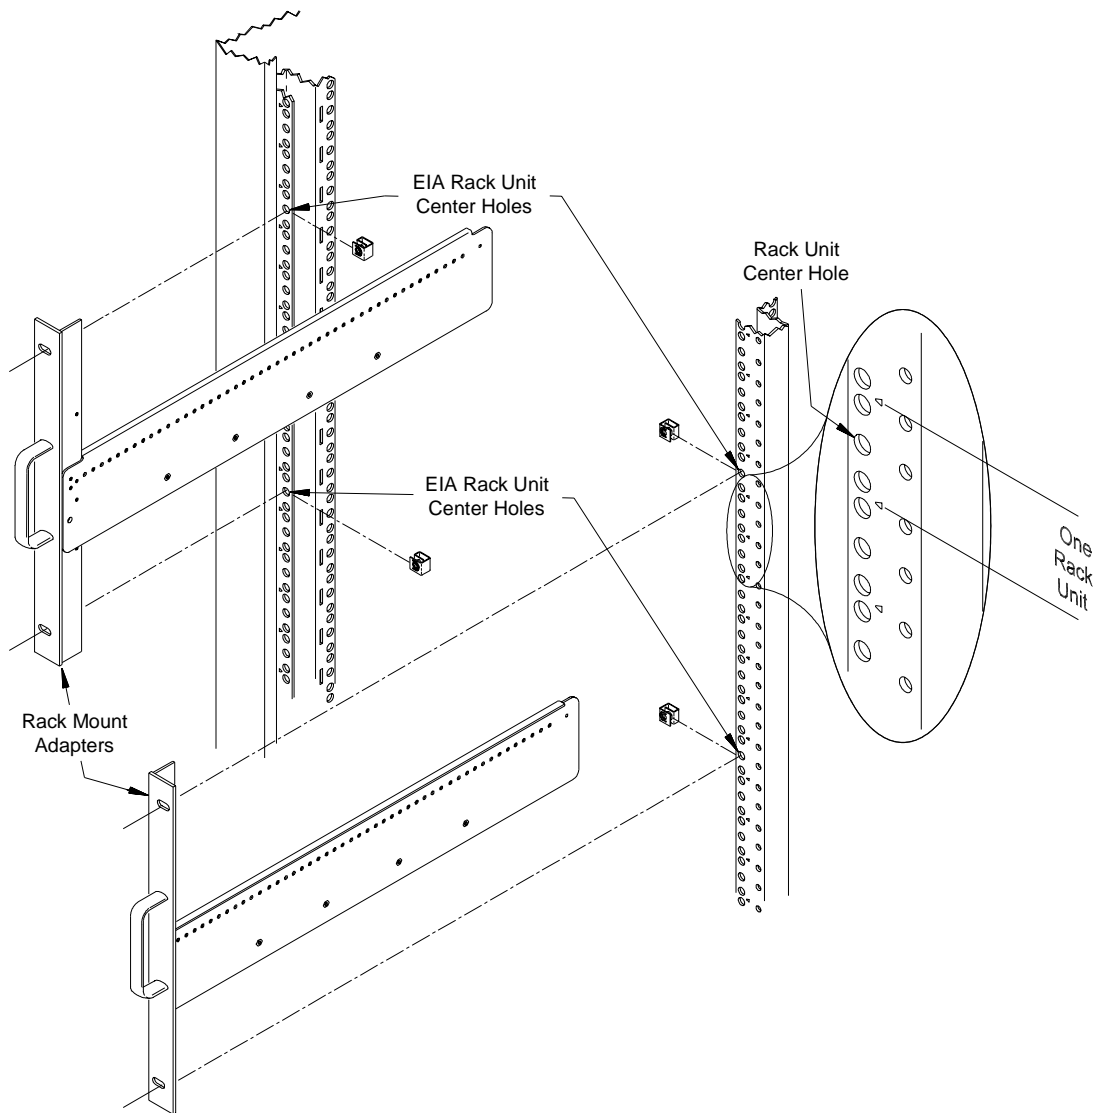

Figure 2-2. Positioning the Mainframe in the Rack.
- Using the rack mount adapters as templates, position the adapters on the rack's vertical rails where the mainframe is to be mounted. Align the adapter holes over the "center" holes of the EIA rack units (Figure 2-2).